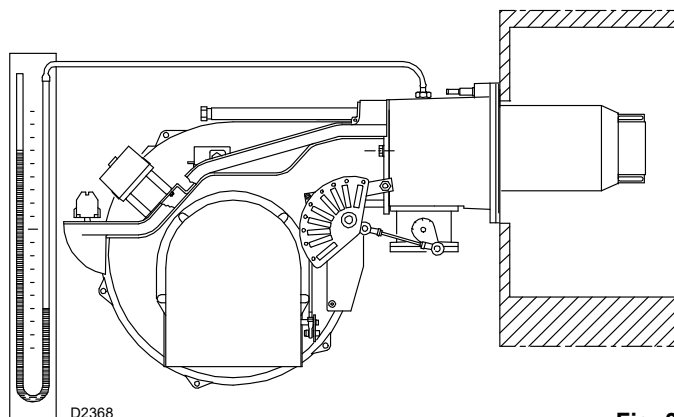

Fig. 32
- Purge the air from the gas line. Fit a U-type manometer (Fig. 32) to the gas pressure test point on the sleeve. The manometer readings are used to calculate the MAX. burner power using the Tab. I.